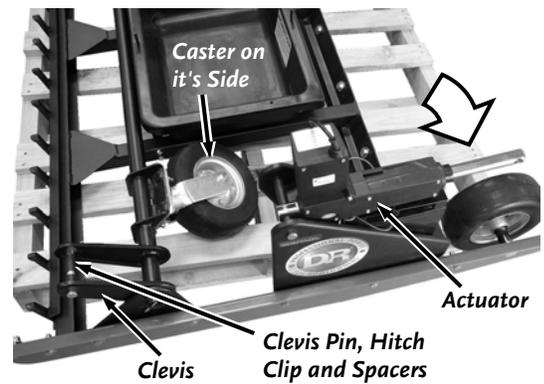

Figure 7
13. Rotate the Linear Actuator up and to the rear, leaving it in this position (**Figure 7**).